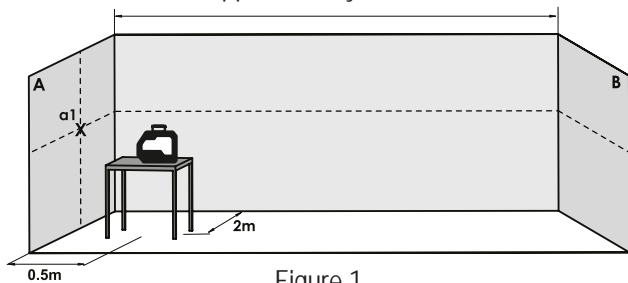

Figure 1
4. Mark the center of the cross beams on the wall as **a1** (see figure 1).